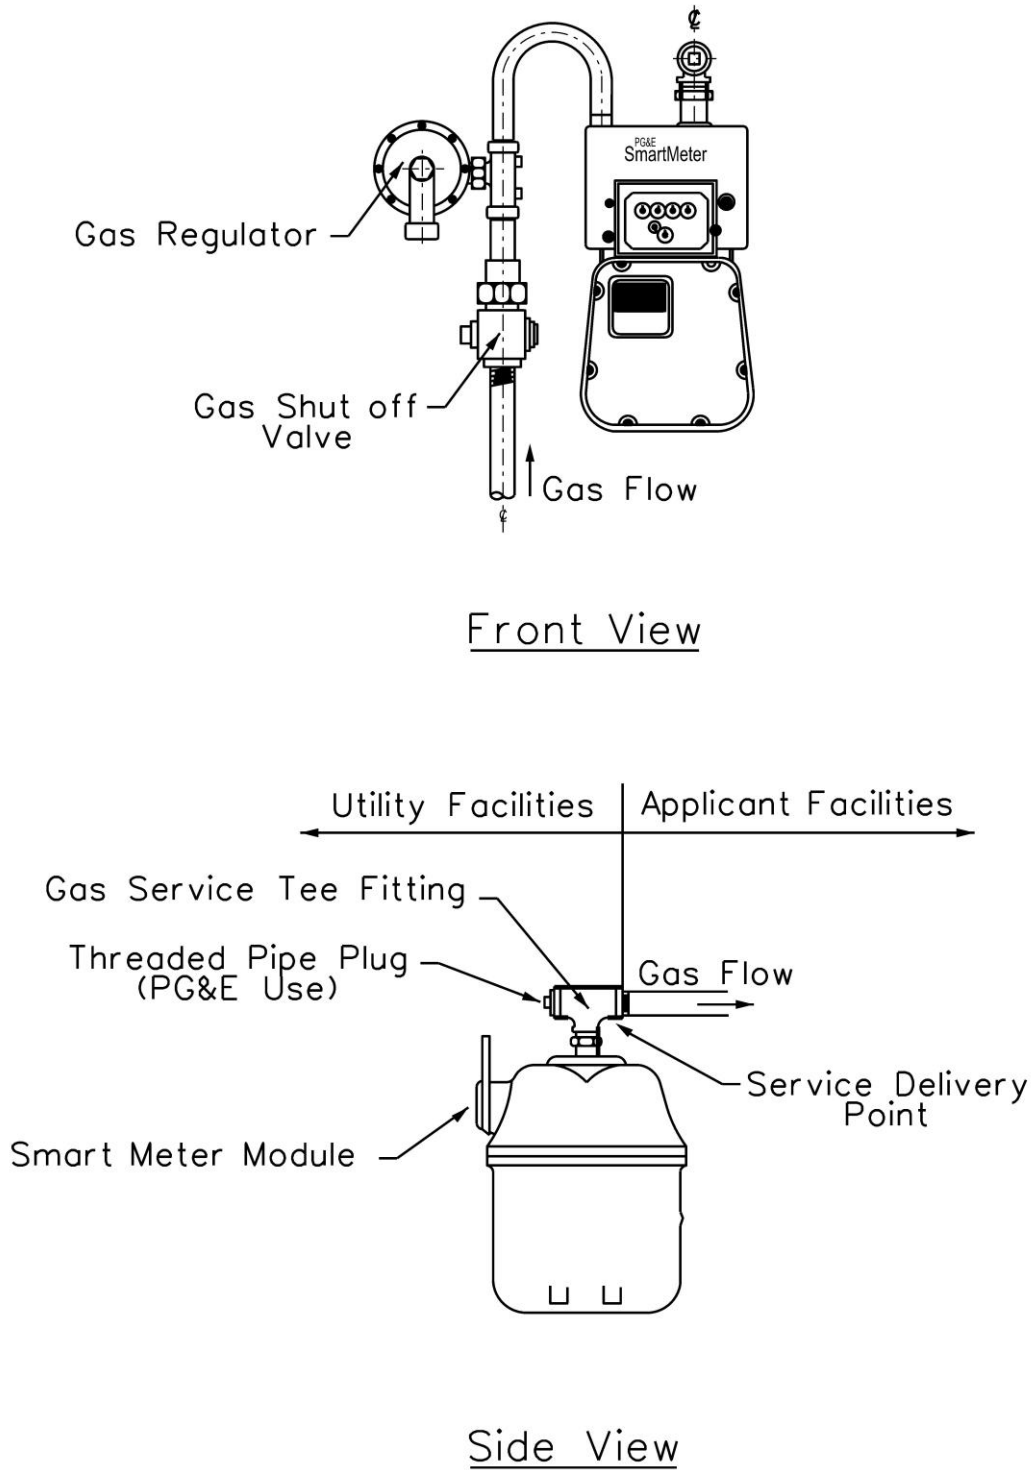

Figure 5. Typical Residential/Small Commercial Meter
(18) Service Delivery Point
- (a) All customer-installed equipment must be installed downstream of the Company point of connection as shown in Figure 5. Customer-installed equipment may include: earthquake valves, seismic shutoffs, remote monitoring equipment, or flex hoses. Any customer-installed equipment on Company facilities must be removed at the customer's expense.